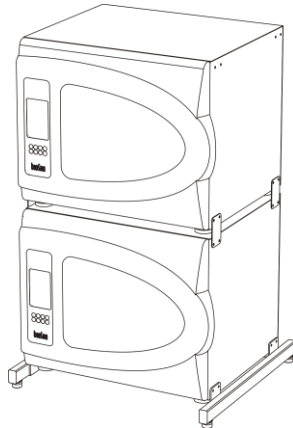

Figure 5. Stacking three units, middle level
- 5.5.4. Middle unit (figure 5):